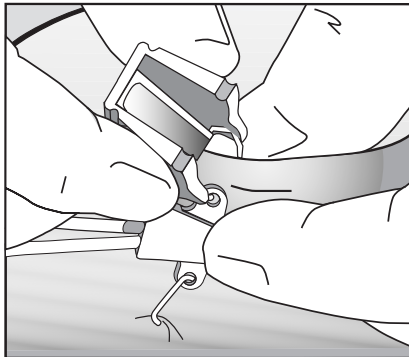

Figure 1
2. Pass staple point through eye of catheter suture hub (refer to Figure 1).